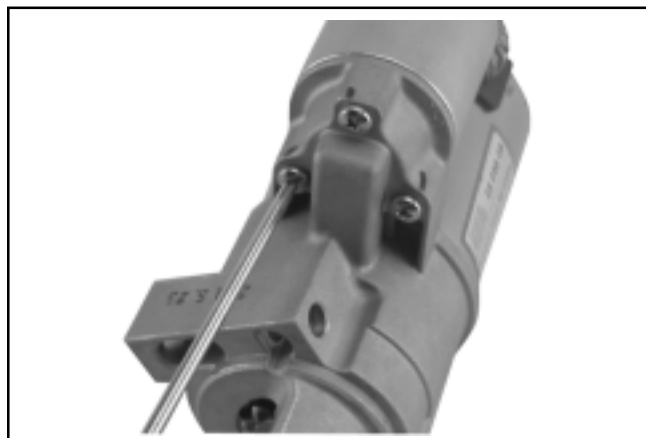

Figure 8-66. Installing Solenoid Screws.
13. Hook the plunger behind the upper end of the drive lever, and install the spring into the solenoid. Insert the three mounting screws through the holes in the drive end cap. Use these to hold the solenoid gasket in position, then mount the solenoid. Torque the screws to **4.0-6.0 N·m (35-53 in. lb.)**. See Figure 8-66.